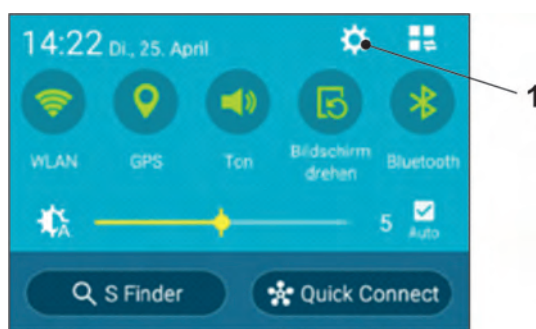

Fig. 30-2 Settings symbol
2. Open the corresponding menu using the Settings symbol (Fig. 30-2 Pos. 1).